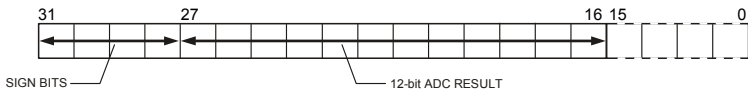

Figure 10: ADC Result Format
The top 4 bits are the sign bits and the 12-bit result is placed from bit 16 to 27 as shown in Figure 10. Again, it should be noted that in fully differential mode, the result is represented in two’s complement format, and in pseudo differential and single-ended mode, the result is represented in straight binary format.
- **ADCDAT:** ADC Data Result Register, hold the 12-bit ADC result as shown Figure 10